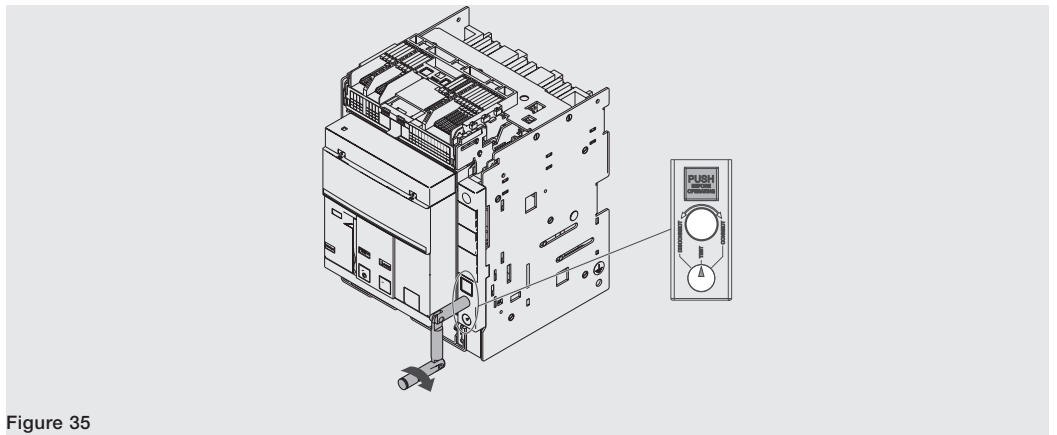

Figure 35
6. Turn the crank clockwise until the pushbutton comes out and the indicator shows that the circuit-breaker is in **TEST** position. See Figure 35.